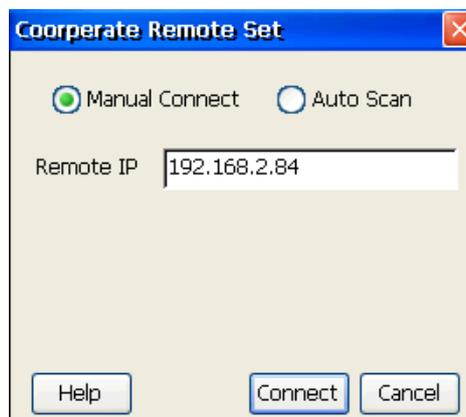

Figure 6.3.5 Auto Cooperation
**Step 1:** Click “Network Performace” → “Cooperation” to select cooperation mode, Remote Cooperation, as is shown in figure 6.3.5.